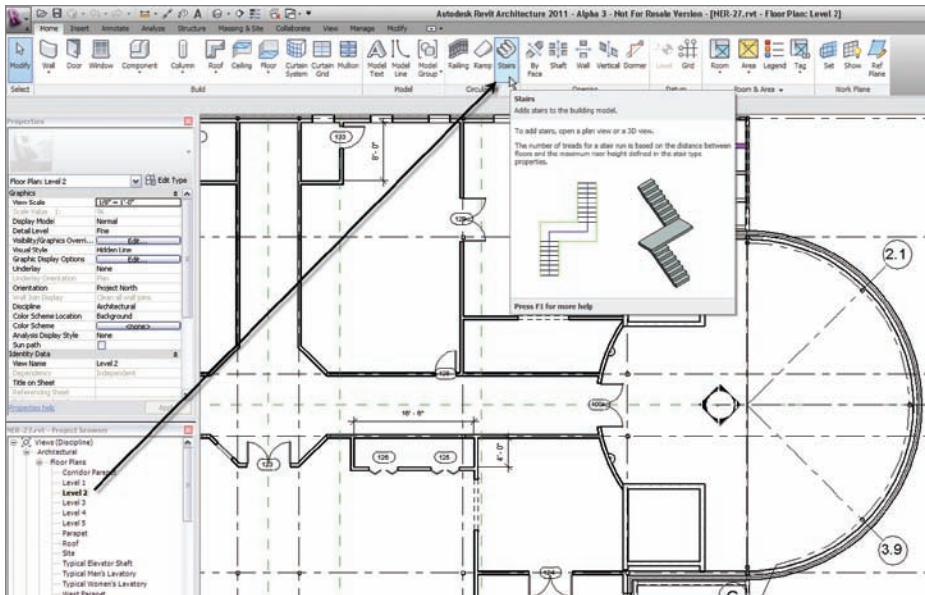

FIGURE 10.1 Click the Stairs button on the Circulation panel of the Home tab.
2. Zoom in on the radial entry in the east wing, as shown in Figure 10.1.
3. On the Circulation panel of the Home tab, click the Stairs button, as shown in Figure 10.1.